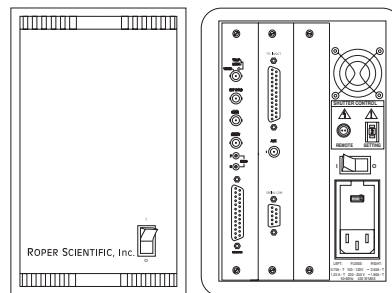

Figure 2. Power Switch Location (ST-133A and ST-133B)
**POWER Switch and Indicator:** The power switch location (see Figure 2) and characteristics depend on the version of ST-133 Controller that was shipped with your system. In some versions, the power switch is on the front and has an integral indicator LED that lights whenever the ST-133 is powered. In other versions, the power switch is located on the back of the ST-133 and does not include an indicator LED.